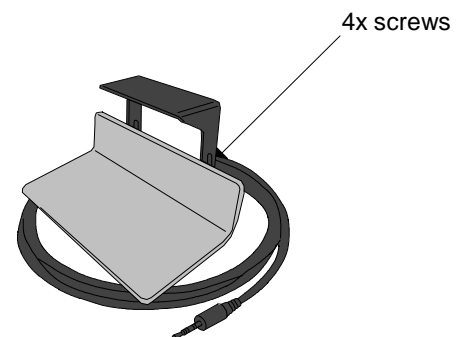

FIG.4
4. Pedal position can be adjusted using four screws on side of pedal assembly. (FIG.4)